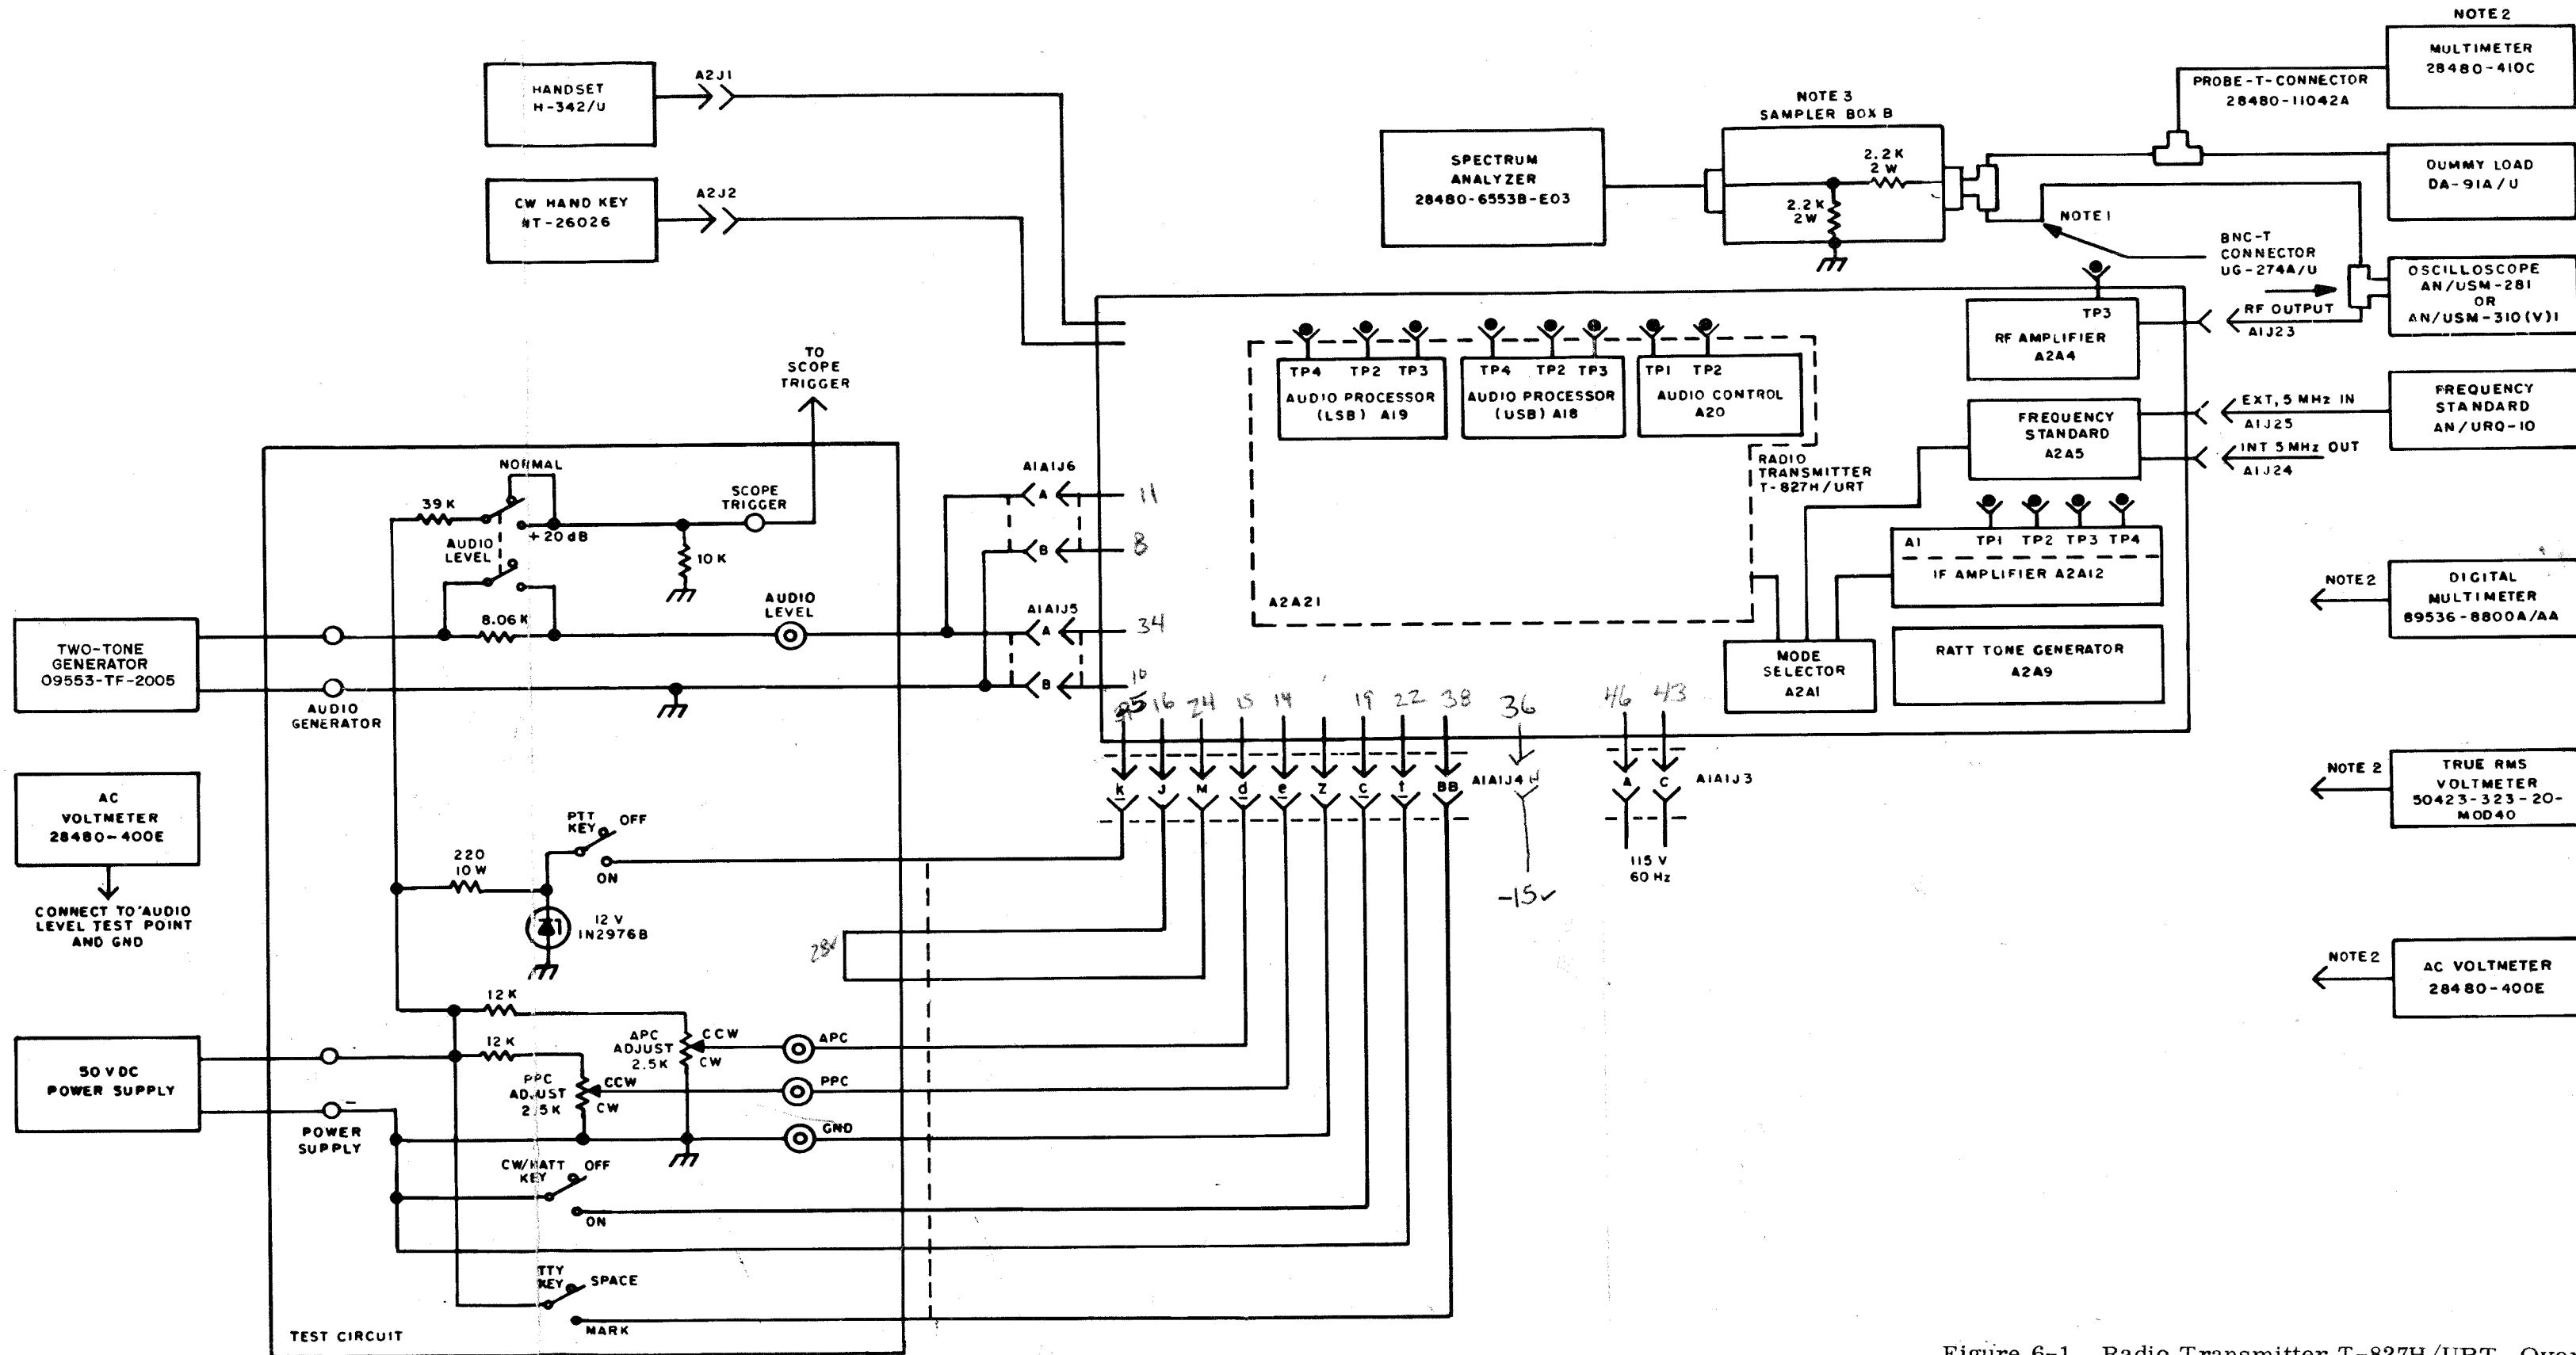

Figure 6-1. Radio Transmitter T-827H/URT, Overall Adjustment and Alignment Bench Test Setup
NOTES FOR FIGURE 6-1
- B. THE TEST STEPS OF TABLE 6-1 DETAIL DEPOT PROCEDURES FOR TESTING THE T-827H/URT IN A FREE STANDING CONFIGURATION. THE TEST CIRCUIT OF FIGURE 6-1 PROVIDES SWITCHING AND CONTROLS TO SIMULATE THE SHIPBOARD COMMUNICATION SYSTEM.